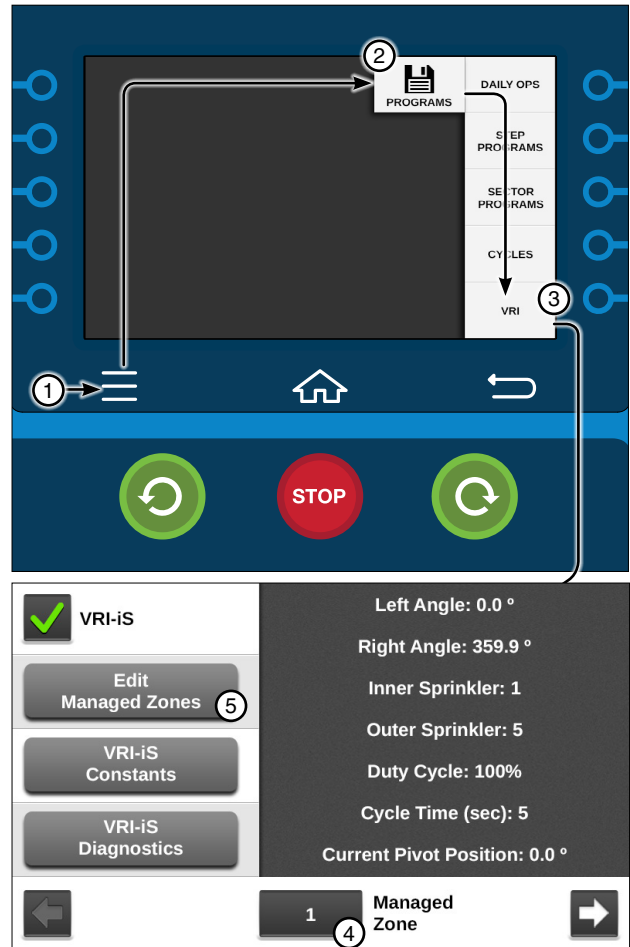

Figure 175-1 1. Menu 2. Programs 3. VRI 4. Managed Zone 5. Edit Managed Zones
1. Push **Menu**, **Programs**, and **VRI** to display the VRI screen. Refer to Figure 175-1.